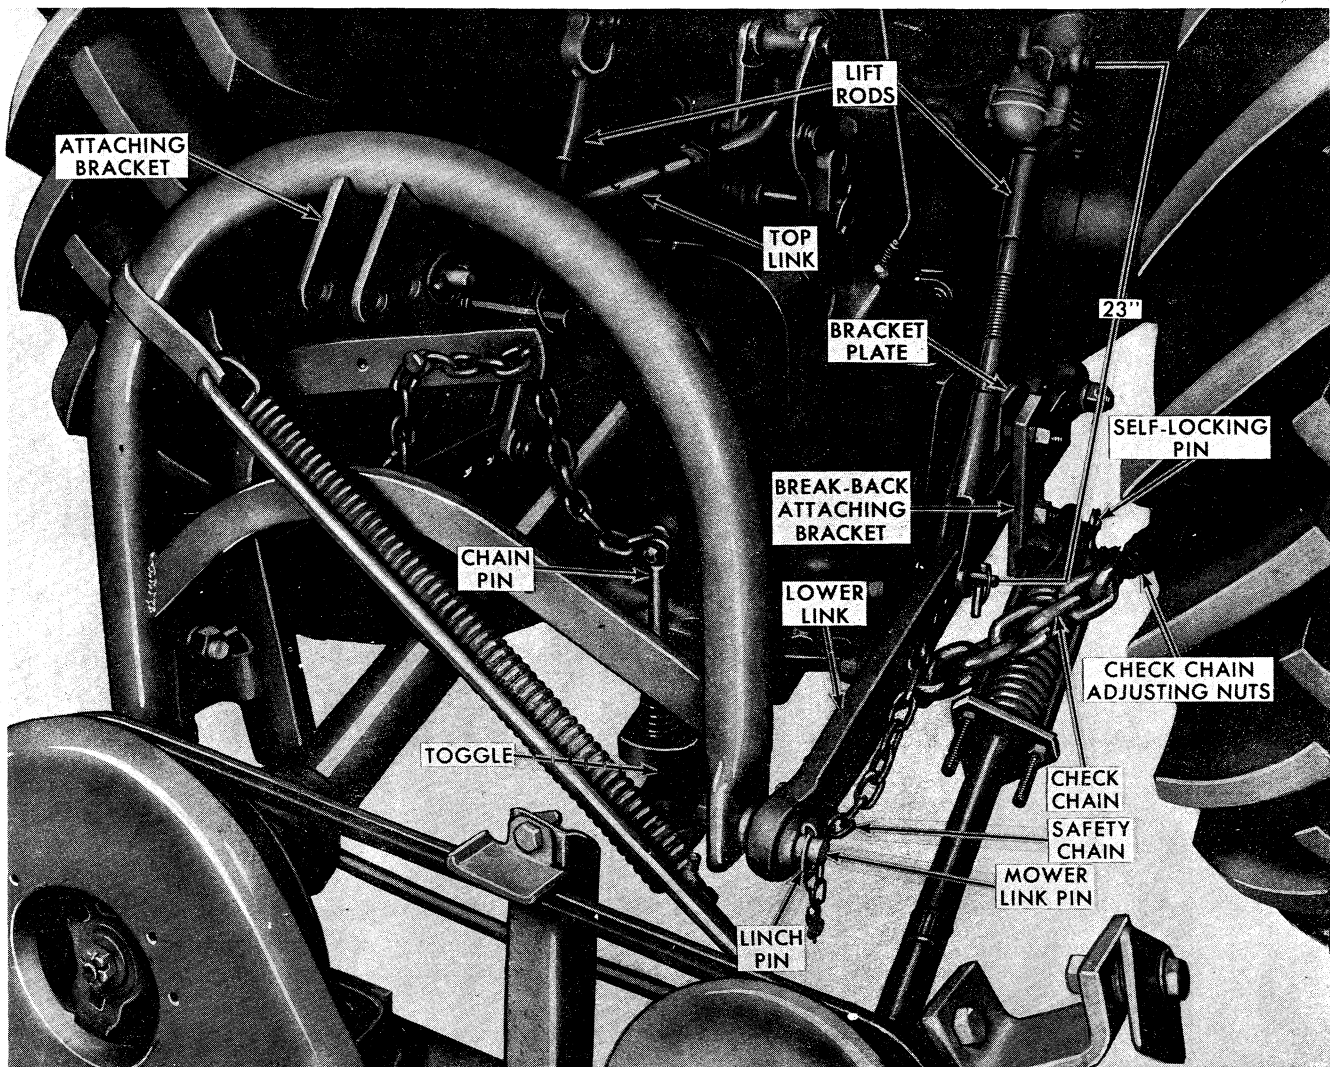

Figure 2
- a. Install the check chains between the anchor bracket and the lower links as shown in Figure 2.
- b. Position the lift rods, Figure 2, in the front set of holes in the lower links. Then, adjust the lift rods to a length of 23 inches (measured from center-to-center of the attaching pins) as shown.
- c. The safety chains, Figure 2, should be wired to the lower links. This will prevent the chains from interfering with the bellcrank and from catching and dragging hay.
2. Install the two link pins, lock washers, and nuts in the upper frame as shown in Figures 2 and 3.
3. Back the tractor into position and attach the tractor lower links to the mower link pins. Secure with the tractor link pins as shown in Figures 2 and 3.
4. Attach the tractor top link, Figures 2 and 3, to the mower attaching bracket with the link pin provided with the kit. Secure with a linch pin.
5. Position the break-back attaching bracket on the tractor right lower link so that the front of the bracket just touches the ball socket at the forward end of the lower link. Secure with the two carriage bolts and nuts provided in the bracket. See Figures 2 and 3.
6. Attach the break-back assembly to the link pin on the attaching bracket, as shown in Figures 2 and 3. Secure with the self-locking pin.
9. Insert the chain pin, Figures 2 and 3, in the tractor drawbar and secure with the toggle in the
10. On Major Tractors shorten the check chains with the adjusting nuts, Figure 2, until no lateral movement exists in the lower links.
4. Remove the chain pin, Figures 2 and 3; from the drawbar by aligning the toggle with the pin.
6. Disconnect the break-back assembly from its attaching bracket, Figures 2 and 3, by removing the self-locking pin and sliding the break-back assembly off the link pin.